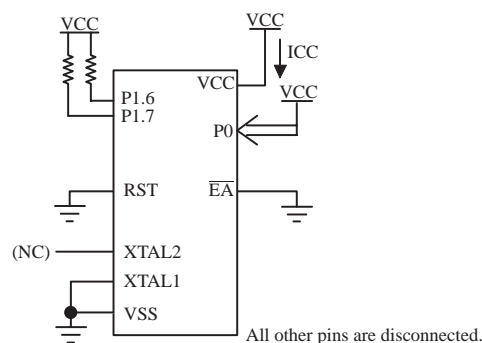

Figure 39 ICC Test Condition, Power Down Mode
- Power Down ICC is measured with all output pins disconnected; \overline{EA} = VSS, PORT 0 = VCC; XTAL2 NC.; RST = VSS (see Figure 39).